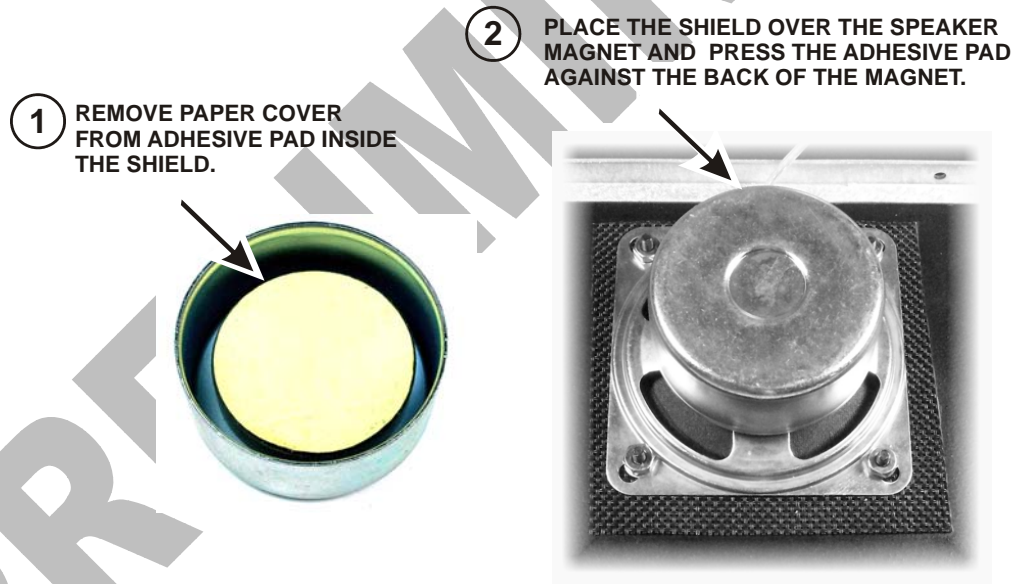

Figure 61. Installing Speaker Magnet Shield.
- Install the magnetic shield over the speaker magnet as shown in Figure 61.